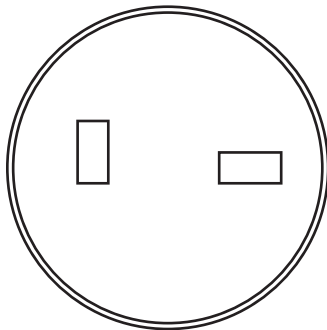

FIG. 1
1. Establish the position for the accessory and mark out the fixing holes. (Fig.1)